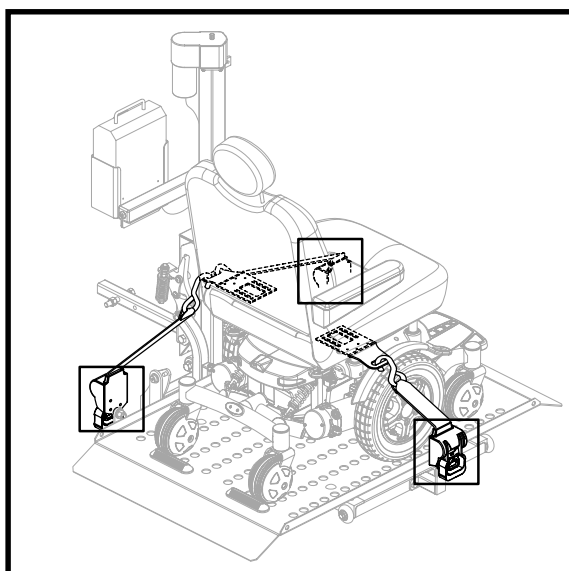

Figure 13. Retractable Tie-down Strap Securement
- Pull the strap out and secure it to the chair restraint tab. See figure 13.